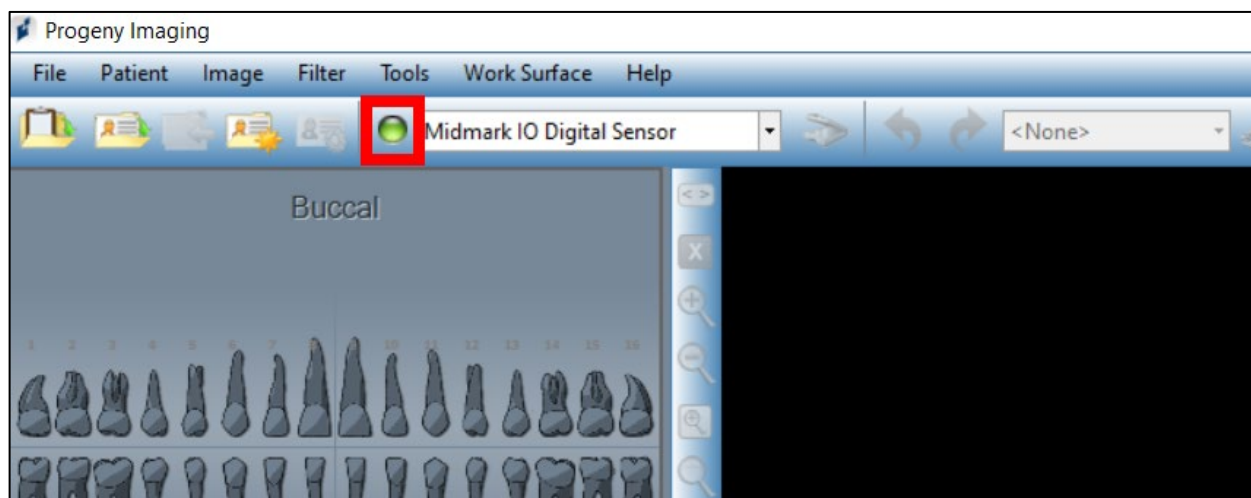

Figure 25. Clicking on the green device status indicator.
- Click on the green device status indicator. See Figure 25 below.